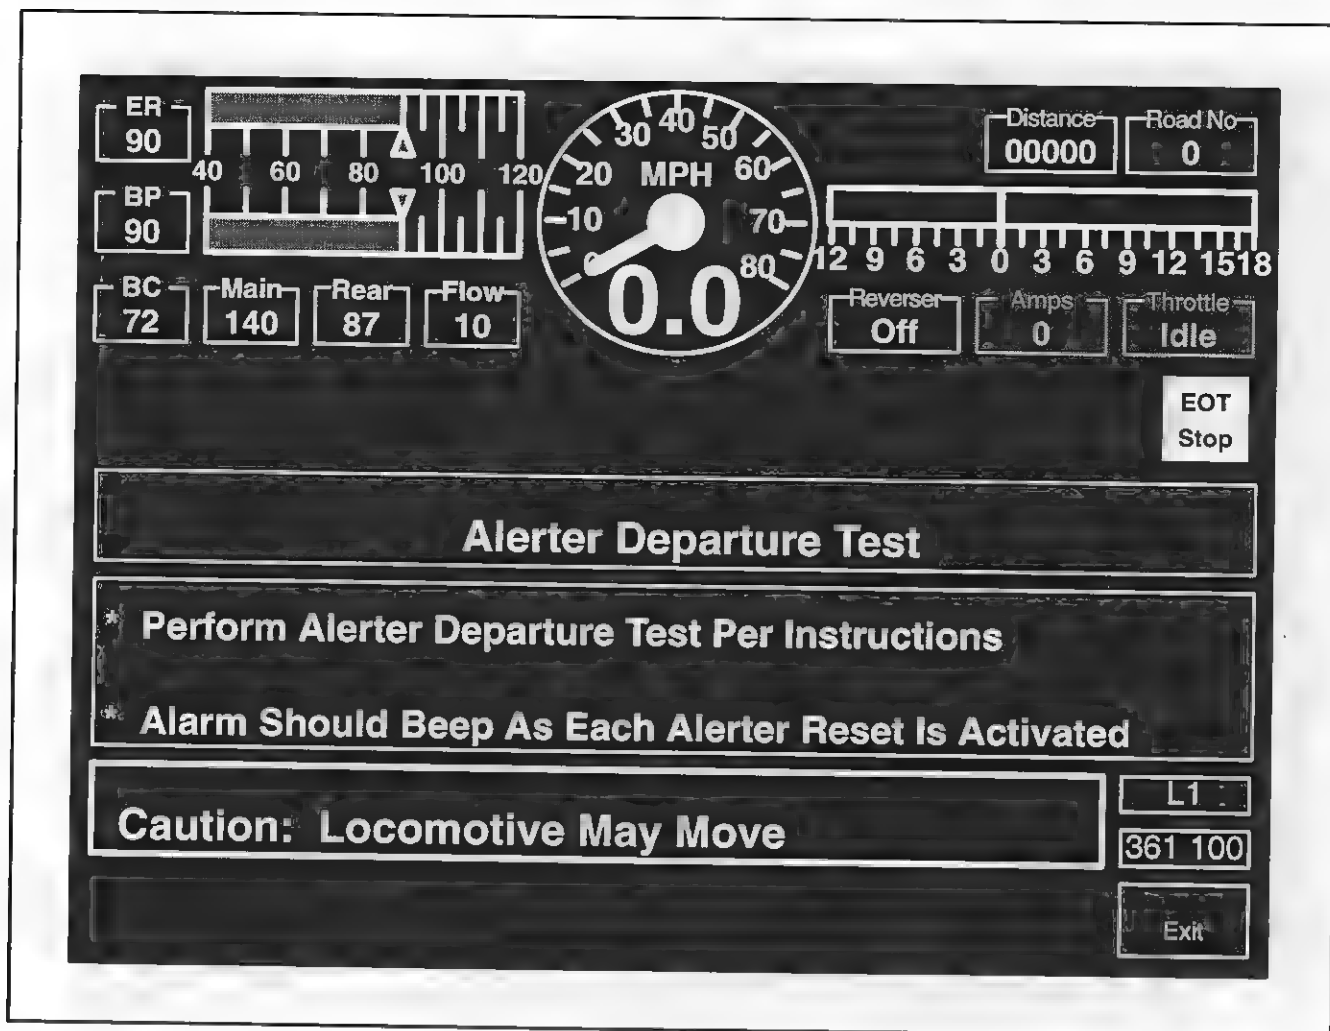

FIG. 48. ALERTER DEPARTURE TEST SCREEN (361 100). E-43061.
- b. Screen 361 100 (Alerter Departure Test) will appear (Fig. 48). Follow instructions listed on the screen.